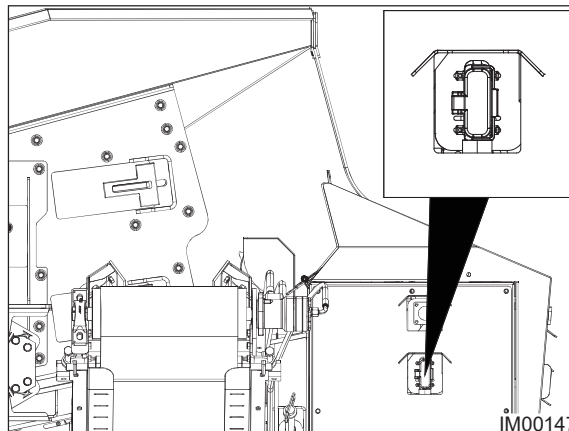

Fig: 8.3 - Machine Operating Screen
◇ *The Machine Operating screen will display (Fig: 8.3).*
6. On the Machine Operating Screen (Fig: 8.3), press and hold the Auto Run button (Item 1) for 5 seconds.